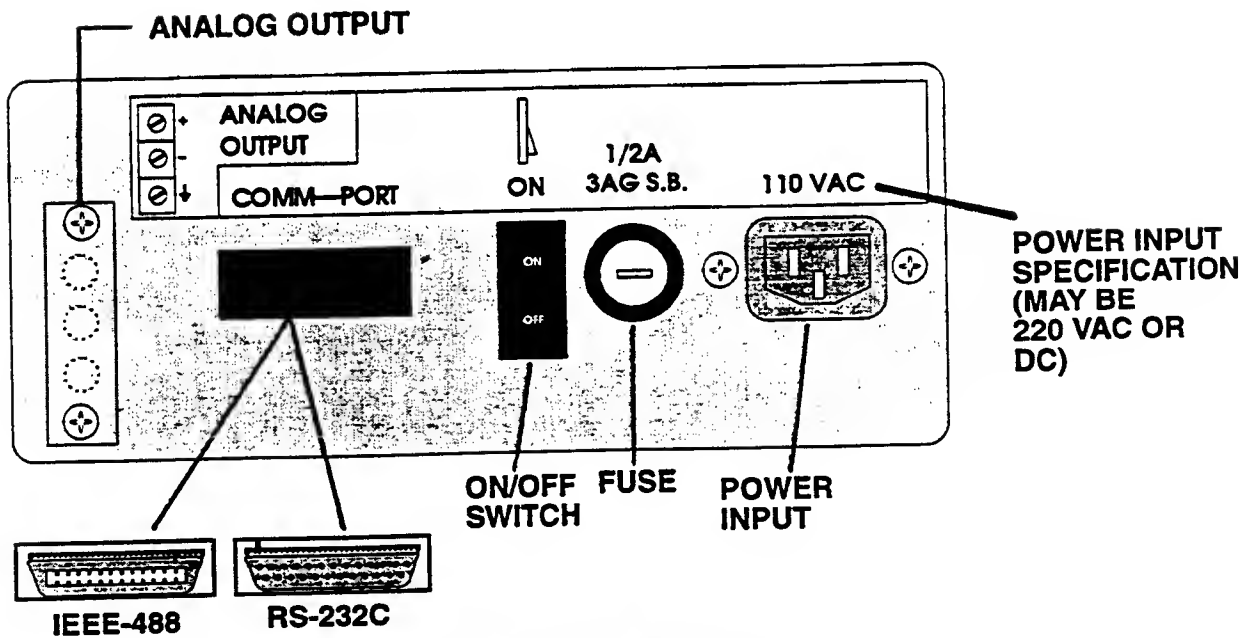

Figure 2.2 The back of the DP95
2. The type of power (i.e. AC or DC), voltage, and frequency needed to operate the instrument is printed on the label on the bottom of the unit. Since the DP95 can be ordered with different power requirements (i.e. AC 110V, AC 220V, DC 12V) determine the power requirement of the instrument from the label and connect the appropriate power to the instrument. Plug the unit's power cable into the power connector on the rear of the unit, as shown in Figure 2.2.